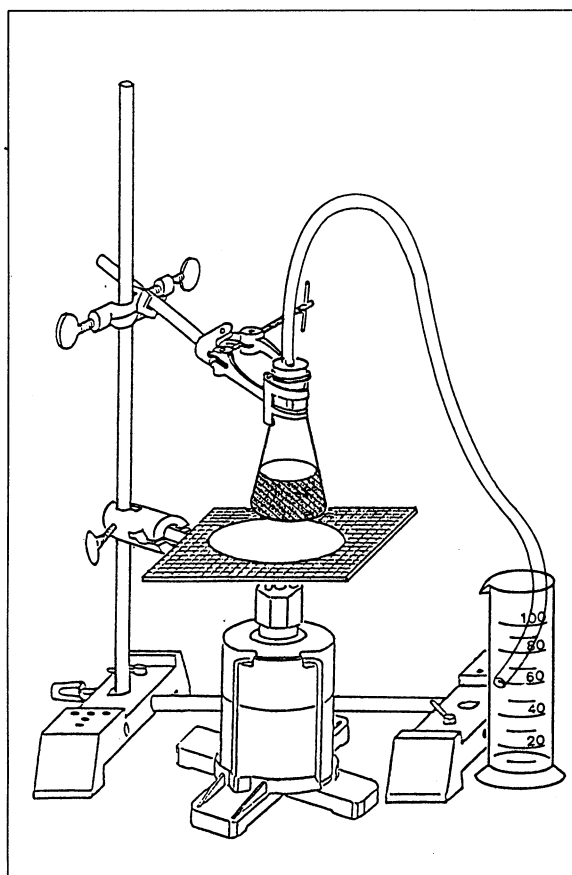

Fig. 1 Setup for distillation
1. Set up the stand as shown in fig. 1. Attach the double socket and apparatus clamp as shown.